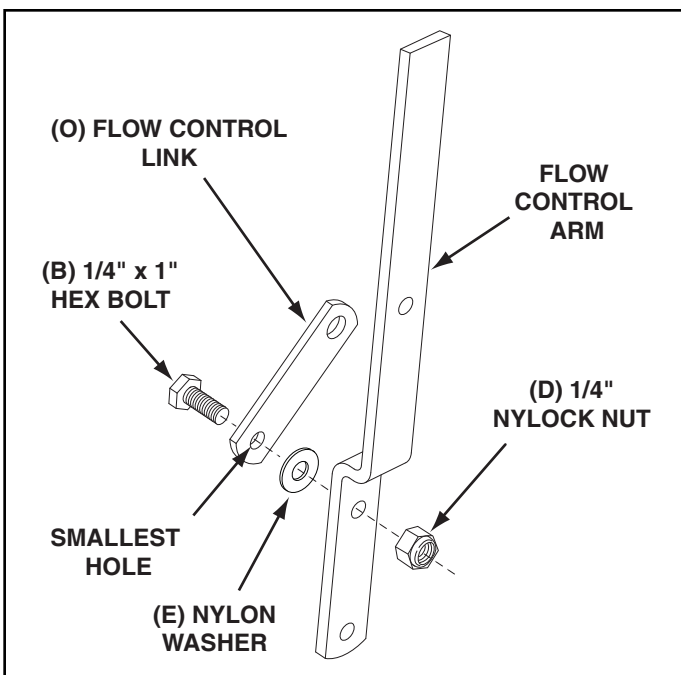

FIGURE 6
14. Assemble the flow control link (O) (end with small hole) to the flow control arm using a 1/4" x 1" hex bolt (B), a nylon washer (E) and a 1/4" nylock nut (D). **Tighten carefully.** The flow control link should not be loose but should pivot with no more than slight resistance. See figure 6.